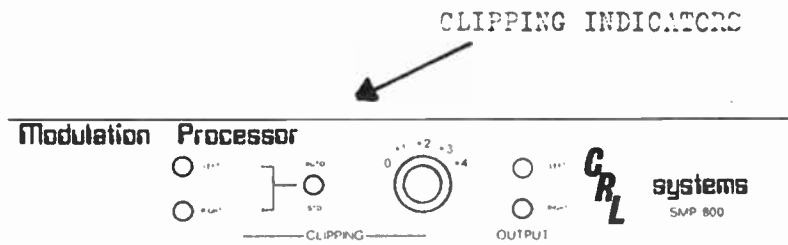

FIGURE 3-7 CLIPPING INDICATOR LOCATION
3.3.3 Clipping Indicators (Figure 3-7)